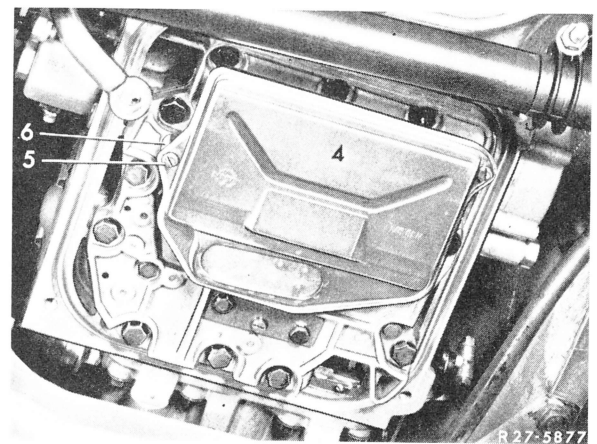

Fig. 2
When no more oil runs out of transmission and torque converter, remove transmission oil pan and replace oil filter (4) (Fig. 2).